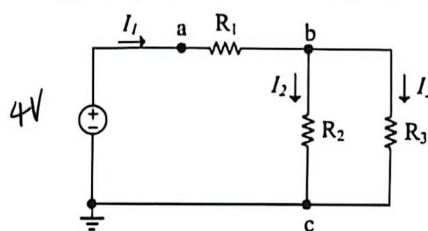
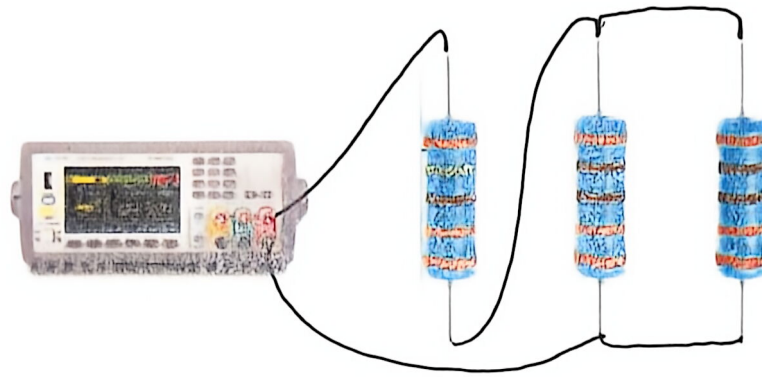
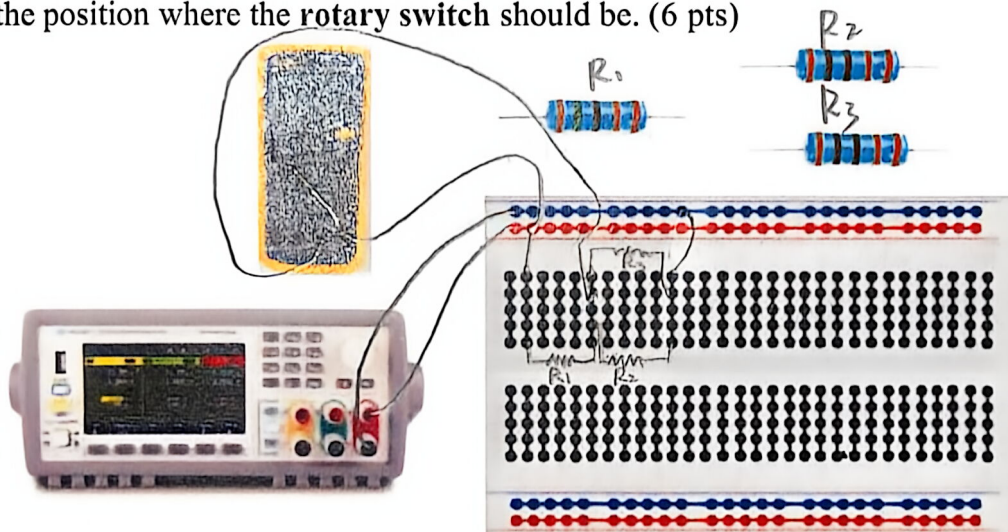
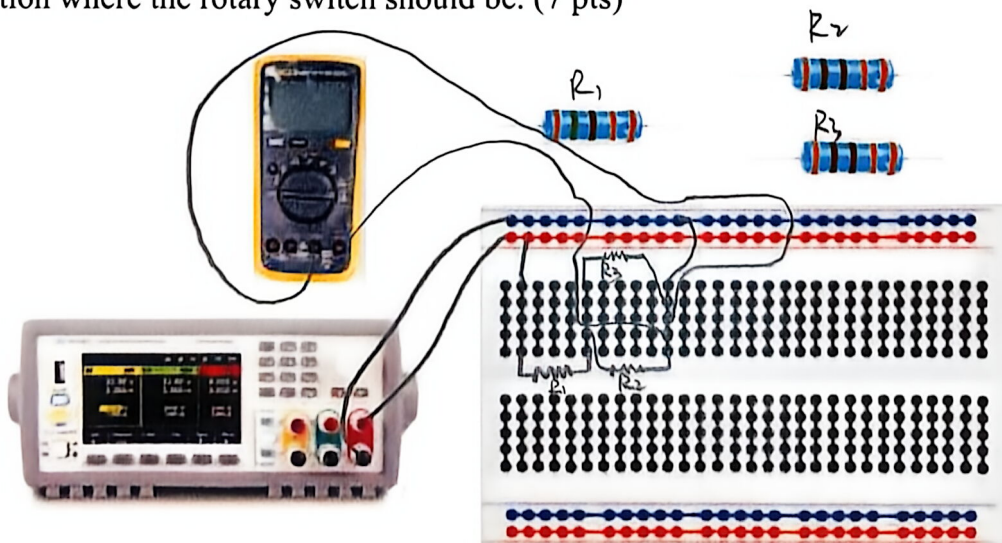

Figure 5
Figure 6
Figure 7
Figure 8
For the circuit shown in Figure 5, assume $R_1=1.5k\Omega$, $R_2=R_3=1k\Omega$.
2. In Figure 6, try to connect the resistors in series to the DC Power supply to make a complete circuit as shown in Figure 5. (6 pts)
3. In Figure 7, sketch the connection to measure the voltage V_{ab} in Figure 5, including the position where the rotary switch should be. (6 pts)
4. Sketch the connection in Figure 8 to measure the current I_2 in Figure 5, including the position where the rotary switch should be. (7 pts)
In **Figure 5**, What is the voltage divider equation for the voltage across R_1 ? (2 pts)
Now, construct a voltage divider which is equivalent to the circuit in Figure 5 by using a potentiometer W103 Potentiometer. (6 pts)